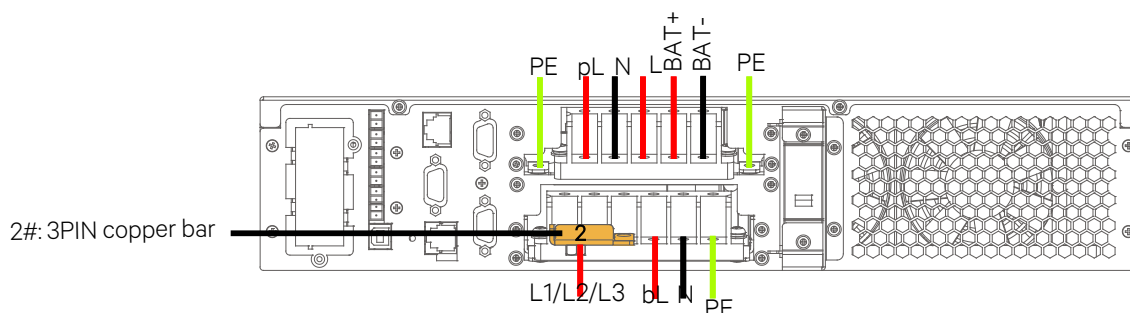

Figure 2-20 Wiring diagram (1-in 1-out, split-bypass configuration)
Pass the mains input live wire through the cable hole of the junction box and connect to the terminal block. Pass the bypass input live wire, mains input N line and input PE line through the cable holes, and connect them to the bypass input live wire terminal (bL), input N line terminal (N), input PE terminal (PE) respectively, then fasten the fixing screws. See Figure 2-20.
5. As shown in Figure 2-20, pass the output live wire, output N line and output PE line through the cable entry holes of the junction box, and connect them to the output live wire terminal (L), output N line terminal (N) and output PE terminal (PE) respectively, then fasten the fixing screws.